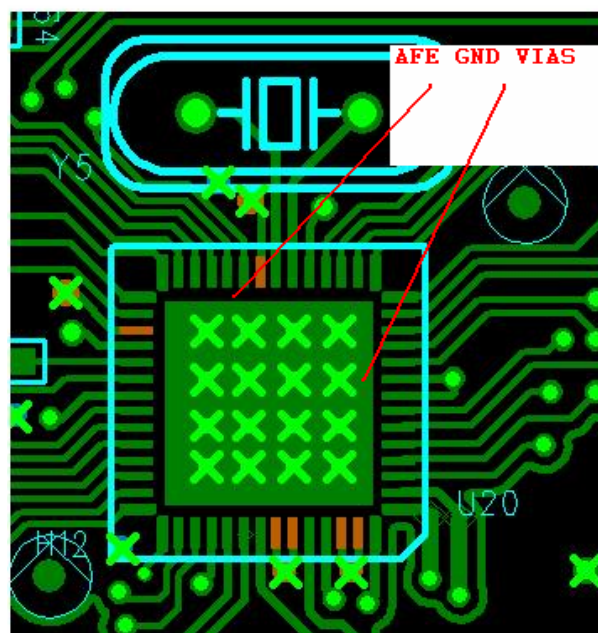

Fig. 1. AFE GND
- Keep dual LD power pin traces identical to power planes (VIAS). See Fig 1, pins highlighted in red.
- **AFE GND** - Fig 1. Place GND VIAS in a symmetrical 4x4 matrix to isolate any AC current coupling between the DAC and ADC of the AFE.